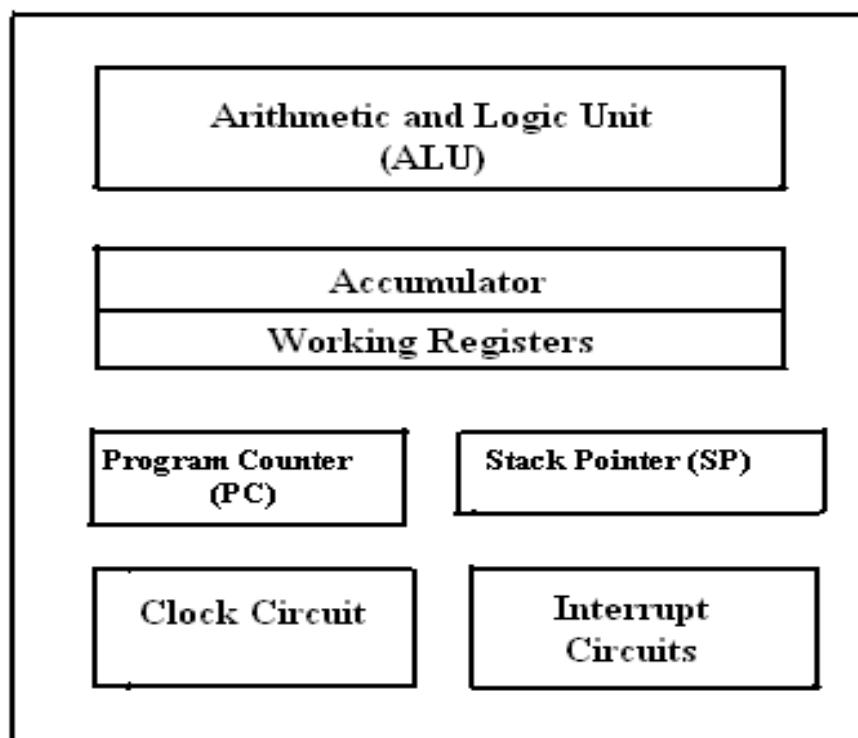

Fig.1 Block diagram of a Microprocessor.
A CPU built into a single chip is called a microprocessor. It is a general-purpose device. The microprocessor contains arithmetic and logic unit (ALU), Instruction decoder and control unit, Instruction register, Program counter (PC), clock circuit (internal or external), reset circuit (internal or external) and registers. But the microprocessor has no on chip I/O Ports, Timers, Memory etc. For example, Intel 8085 is an 8-bit microprocessor and Intel 8086/8088 a 16-bit microprocessor. The block diagram of the Microprocessor is shown in Fig.1.